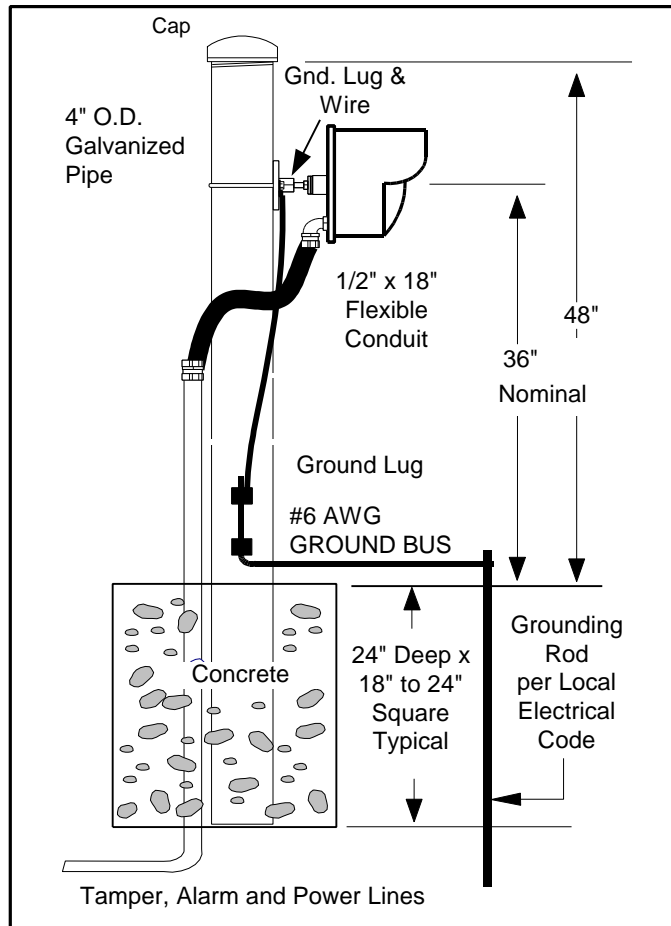

Figure 15
1. Prepare a rigid mounting surface for the Model 300B Transmitter and Receiver. Do not mount units on a cyclone fence or any vibrating surface. A recommended mounting post is a 3½ inch (9cm) galvanized pipe (outside diameter 4 inches, 10cm), sunk into the ground in a concrete base, and protruding above ground level to a height of 4 feet (1.2m). Mount the Transmitter and Receiver 2½ to 3 feet (0.75 to 1.0m) above ground level and allow for height adjustment of at least plus or minus 12 inches (30cm). Height adjustment may be required during final alignment to achieve optimum protection pattern. See Figure 15. An 18-inch (46cm) ½ inch flex conduit is recommended between conduit fitting of T/R and rigid conduit.